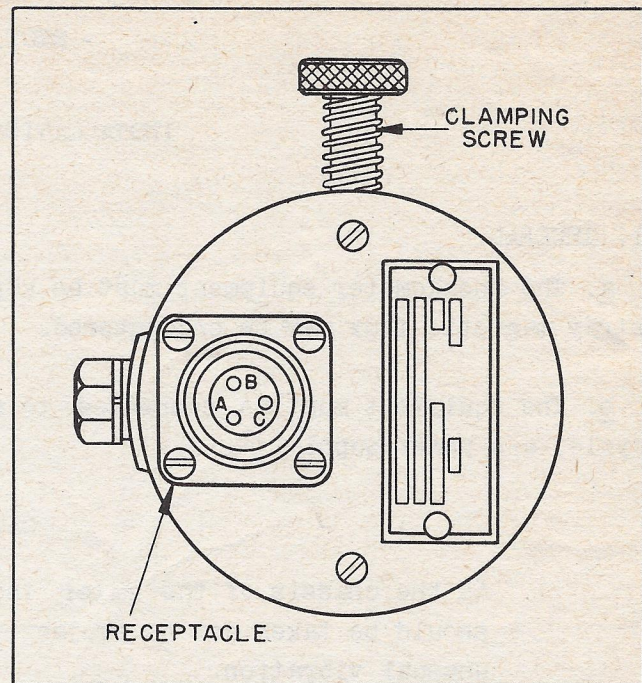
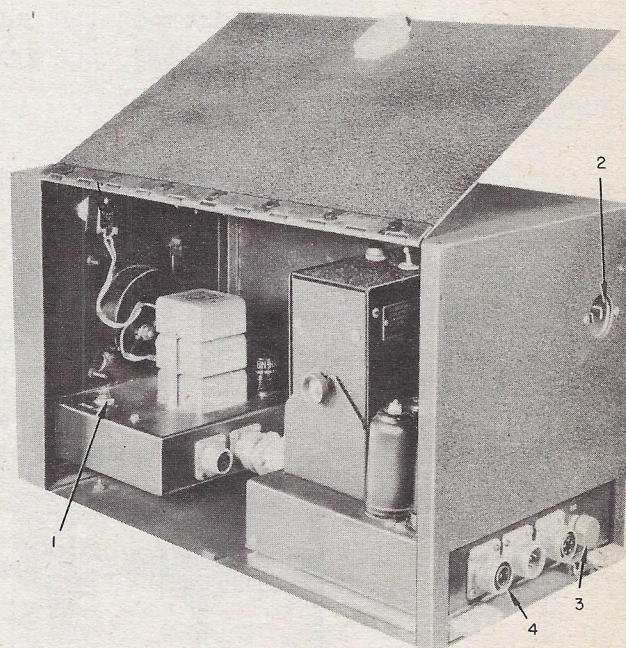

Figure 15 - Commutator (Front View)
Figure 17 - Receptacles and
(1) On the Waukeshau CFR engine an existing hole, integral with the top of the cylinder head, may be redrilled and tapped for a 3/8-24 thread which will accept the pick-up.
(2) If a hole must be drilled and tapped to mount the pick-up, care should be exercised not to pierce the wall of the combustion chamber. The hole depth should not exceed 5/8 inch, while a minimum of 1/8 inch of wall should be maintained between the bottom of the hole and the combustion chamber.
(3) Before attaching the pick-up, lubricate the threads with anti-seize compound and be sure the plain and lock washer are in place on the stud, then screw the pick-up in place with a torque wrench, using 125 to 150 pound-inches torque. Pick-ups are provided with safety wire holes which may be used to secure them.
b. COMMUTATOR. (See figure 15.)
(1) Check the breaker points in the maximum open position for a clearance of .005 \pm .001 inch. (Refer to section V, paragraph 3.d.(1).)
(2) With the engine stopped and the flywheel adjusted to "0" degree setting on the combustion stroke, remove the cover plate on the engine housing.
(3) Insert the commutator with the shaft slot (oil vent intake up) on top, mesh the gears, and then lock the commutator to the engine housing.
(4) Insert chamber leads into the B and C pin openings of the receptacle (figure 15) on the front of the commutator.
(5) Loosen the commutator housing clamping screw (figure 15) and rotate the housing counterclockwise to a point where the ohmmeter first indicates an open circuit.
(3) Attach the cables from the junction box to the Knockometer cable receptacle (4, figure 17) on the cabinet and to the commutator receptacle (figure 15).
(4) Attach the cable from the oscilloscope to the plug furnished with the Knockometer.
(5) If an oscilloscope is to be used with the instrument, unscrew the cover, and insert the cable plug into the receptacle (3, figure 17).
(6) Attach the power cable plug to the receptacle (2, figure 17) on the cabinet, twist it slightly clockwise to lock it, and plug the free end of the cable into a 105- to 125-volt, 50- to 400-cycle, a-c outlet.
(4) After a 5-minute warm-up period, adjust the meter zero adjustment potentiometer, until the meter pointer is set at "0." The adjusting screw (1, figure 17) is located on the meter chassis, and is accessible through the side hinged panel of the cabinet.